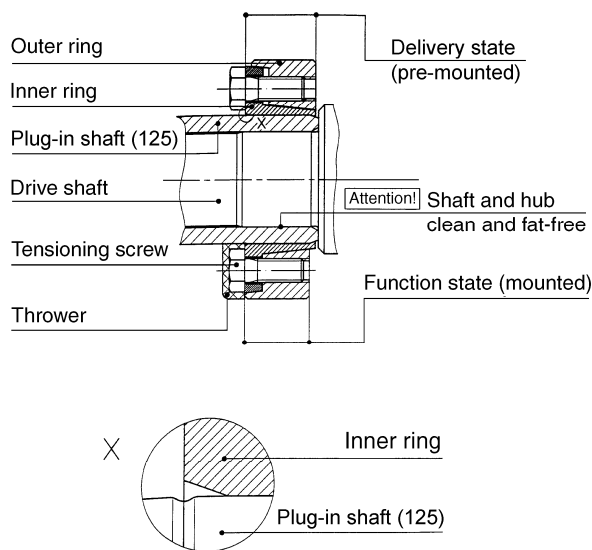

Fig. 9 Clamp sets in inner collar
Tighten all clamp bolts until the front surfaces of the outer and inner rings are flush and the tightening torque increases greatly (→ see functional condition in Figure 9). The permissible tightening torques in Nm are engraved in the clamp set (123).
11. Make sure the clamp set (123) is in the proper location on the stub shaft (125) as depicted in Figure 9, Detail X.
12. Pull the thrower (123) onto the clamp set (123).